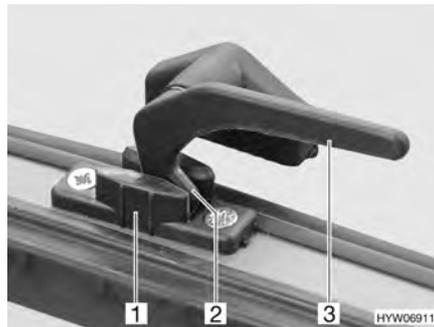

Fig. 59 Catch lever in the "continuous ventilation" position
- "Continuous ventilation" (Fig. 59)
- Turn the catch lever (Fig. 59,3) a quarter turn towards the centre of the window.
- Turn the catch lever a quarter turn towards the window frame. The locking catch (Fig. 59,2) has to be moved into the recess of window catch (Fig. 59,1).